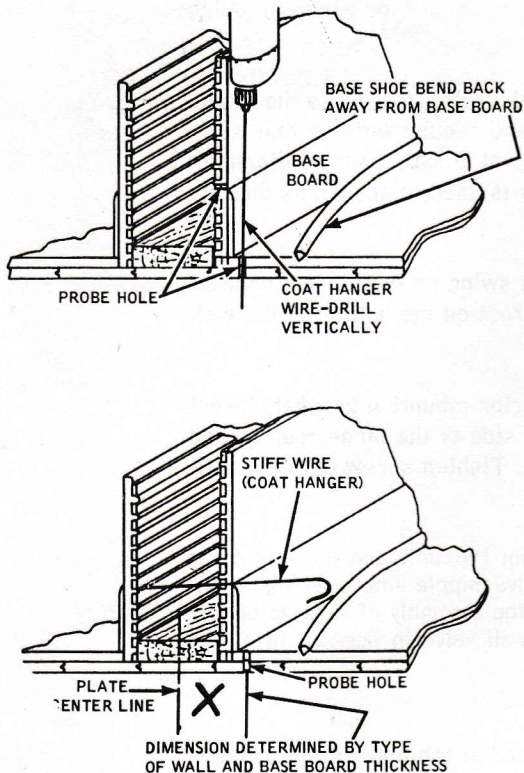

FIGURE 2
2. A probe drill can be helpful to determine plate locations. See Figure 2 for a suggested method. (NOTE: A length of stiff wire from a coat hanger can be used in place of a drill bit.)